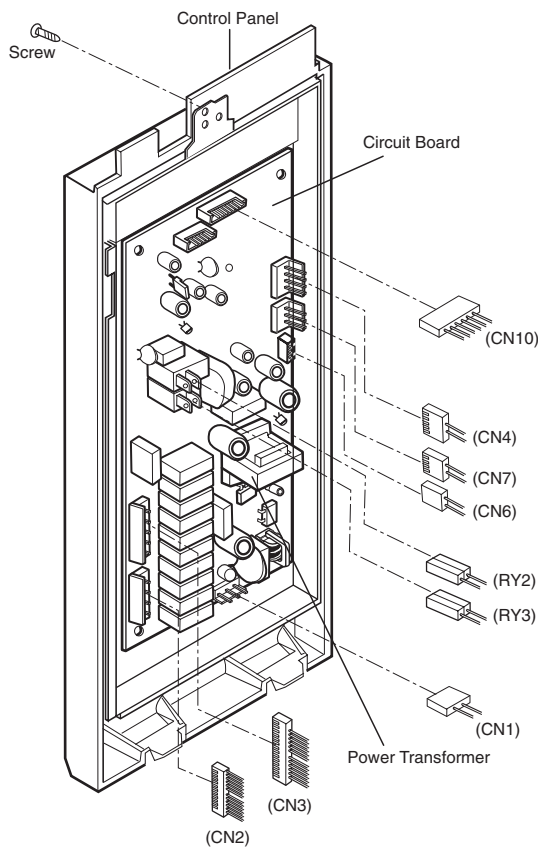

Figure 1
A. REMOVING POWER AND CONTROL CIRCUIT BOARD (Figures 1, 2 and, 3)
- (1) Remove a screw securing the control panel assembly to the oven cavity.
- (2) Remove the control panel with pushing it upward.
- (3) Remove the connectors (CN1, CN2, CN3, CN4, CN6, CN7, CN10,) and wire leads (RY2, RY3) from the circuit board.